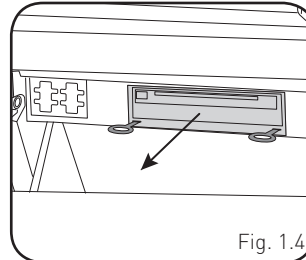

Fig. 1.4
4. Open glove box and, using two (2) supplied keys, release and remove cd player. Disconnect main wire harness and all antenna connections. (Fig. 1.4)